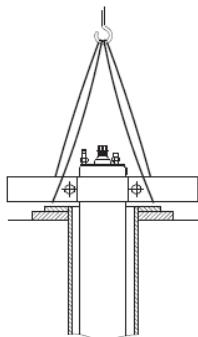

Fig. 2: Motor in vertical position
- Place the motor in a vertical position on the borehole seal, see Figure 2.